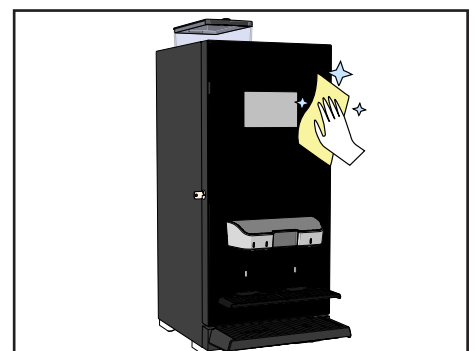

Figure 38.
20. Clean the exterior of the machine with a slightly damp cloth (see Figure 38).